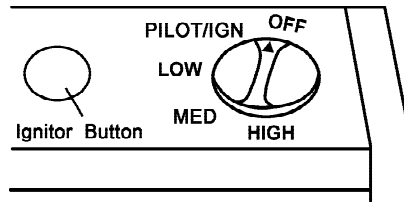

Figure 19 - Control Knob in The OFF Position
3. Push in control knob slightly and turn clockwise ↻ to the OFF position (see Figure 19).
5. Push in and turn control knob counterclockwise ↻ to PILOT position. Press in control knob for five(5) seconds.